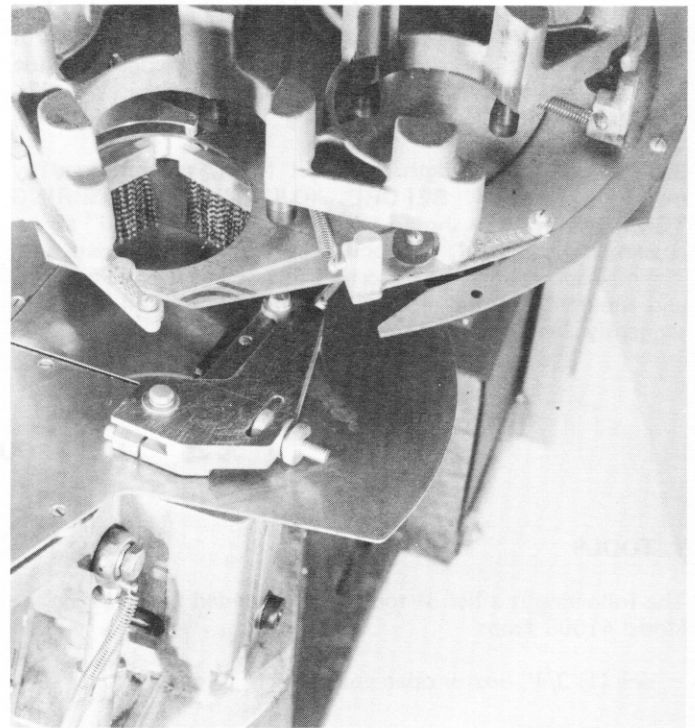

Figure 6 — Throwing Arm in Firing Position
- D. Throwing arm will rotate to firing position (see Figure 6).